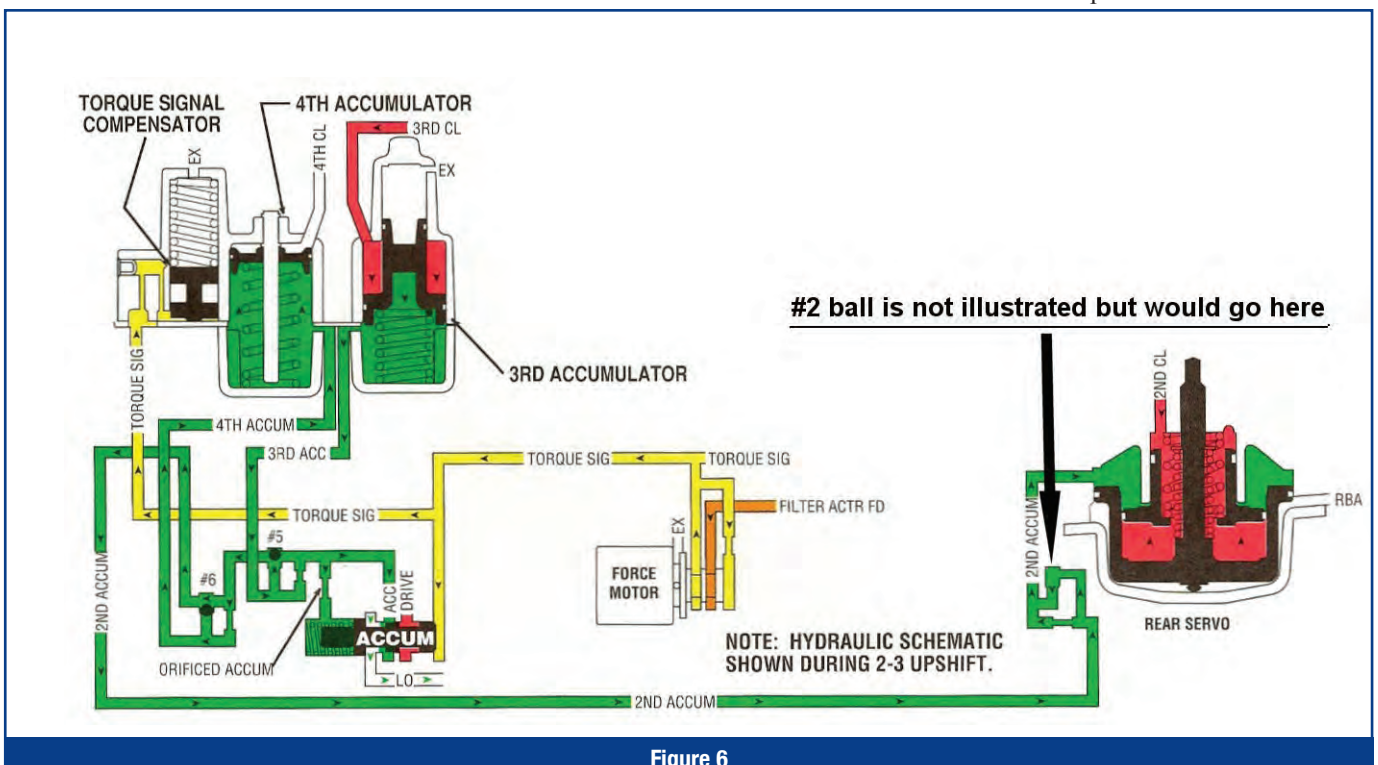

Figure 6
- 2—2nd Accumulator (figure 6); not used on all models. Helps control the apply/fill rate of the accumulator by assisting the spring pressure. This checkball is needed to create the pressure difference between minimum line and maximum line pressure for accumulator compression control.